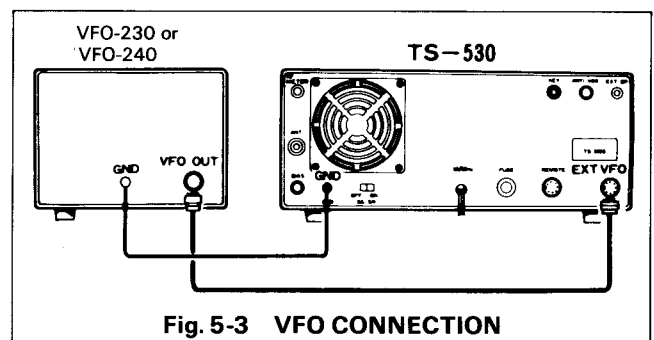

Fig. 5-3 VFO CONNECTION
■ VFO-230, VFO-240 CONNECTION (Fig. 5-3)